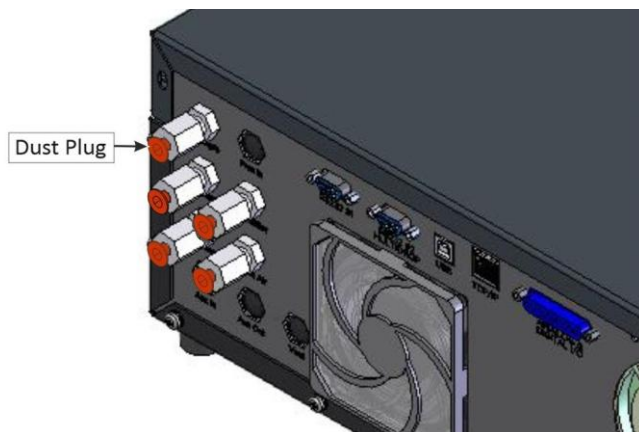

Figure 27 – Dust Plugs
6. Refer to Figure 27. Seal each pneumatic ports with a dust plug.